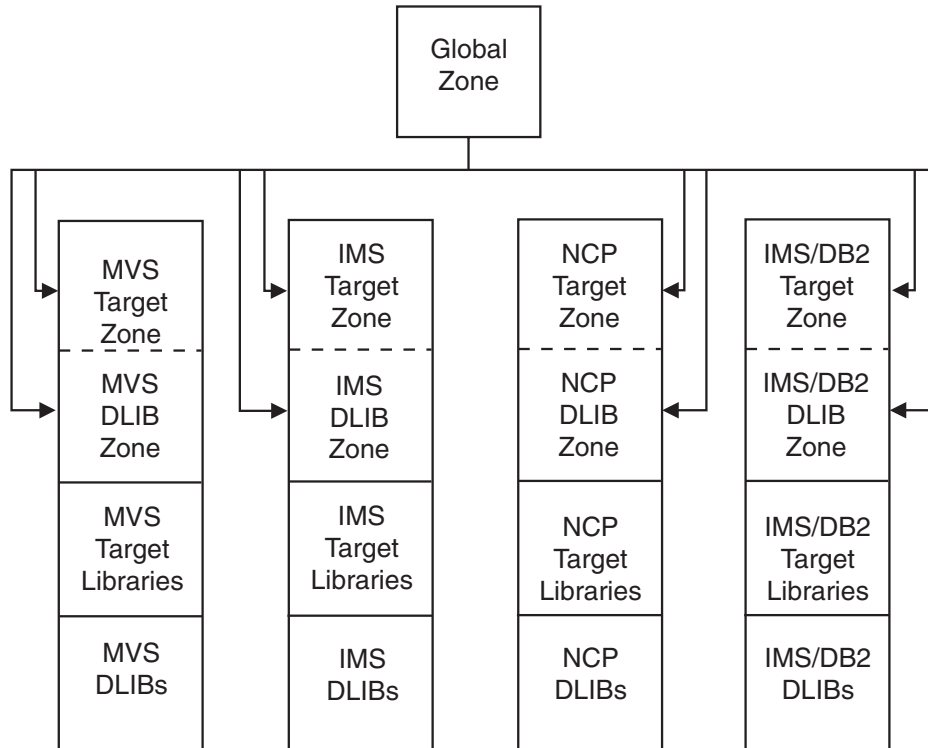

Figure 30. Using a Master CSI and One CSI per SREL
*Example 5: Using a Master CSI and One CSI per SREL:* In Figure 30 on page 68, one global zone is defined for the entire system in a master CSI, and separate CSIs are allocated for each SREL (MVS, CICS, NCP, and IMS/DB2). The target zones and DLIB zones associated with a given SREL are in the same CSI. This CSI structure provides the advantages of a common control point through one global zone (as in Example 2) and keeps the SMP/E control information physically associated with the libraries it describes. This is useful when you dump packs for backup.